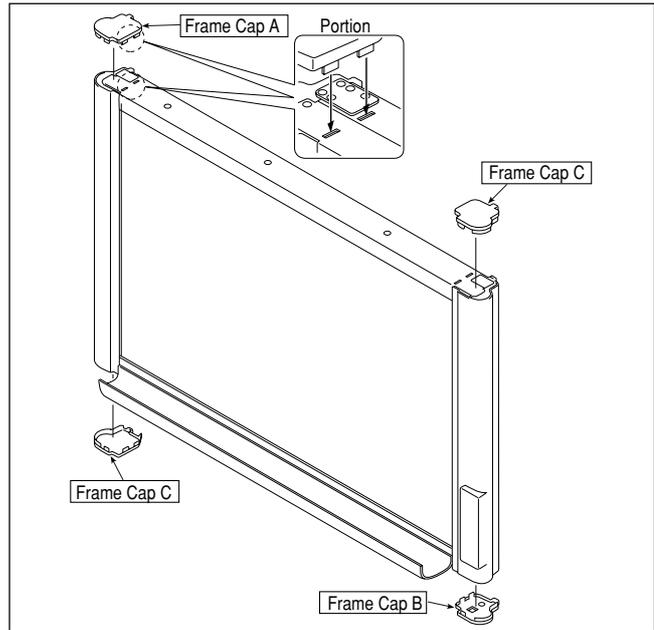

Fig. 1
### 1) Remove the Frame Cap. (See Figure 1.)
1. Remove Frame Caps A, B, and C as shown in Figure 1.
- Put the hooks of the Frame Caps in the main set as shown in the expanded section of Figure 1 when installing the Frame Caps.